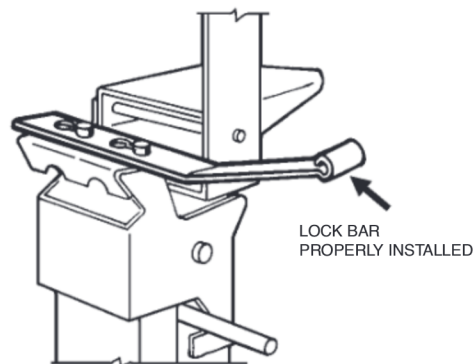

FIGURE 52
- 12. Remove the cocking lever and insert lock bar (Part No. 14985) on left side of cable lever, over the two shouldered projecting stud extensions, and slide the bar forward into the locking position. (The regulated release mechanism cannot be actuated, nor can enclosure cover be replaced until the lock bar is removed.) See Figure 52.